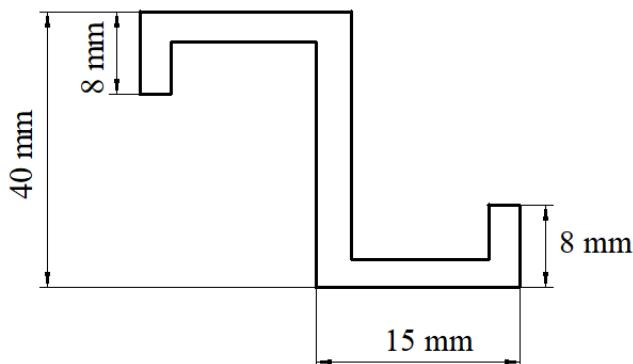

Figure 6b
- b) Calculate the crippling stress for the given extrusion section shown in the figure 6b using the Gerard method. Assume $E=75\text{GPa}$ and the yield stress is 280 Mpa. Thickness of the section is 1.5 mm.